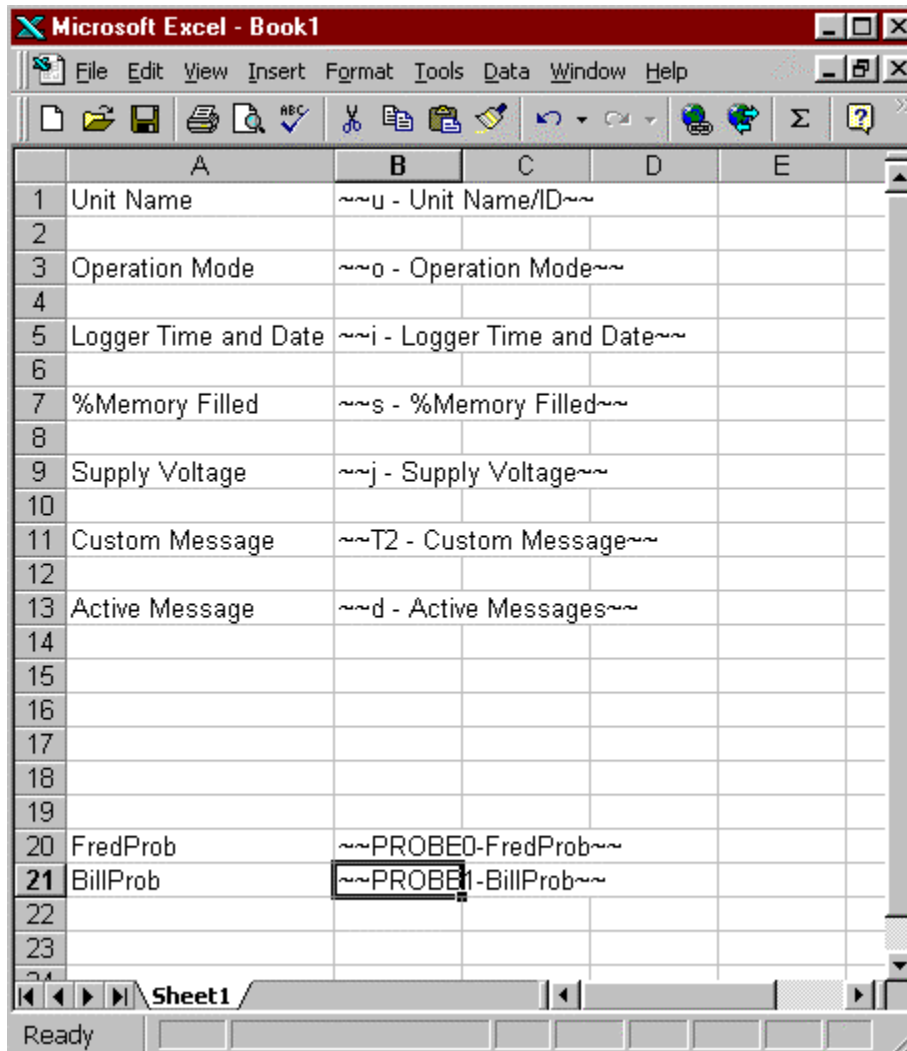

Figure 5.1.2b Generated Template by HAP before user edit, Example 5.1
6) Edit the template illustrated in Figure 5.1.2b. After edit, the template is illustrated by: